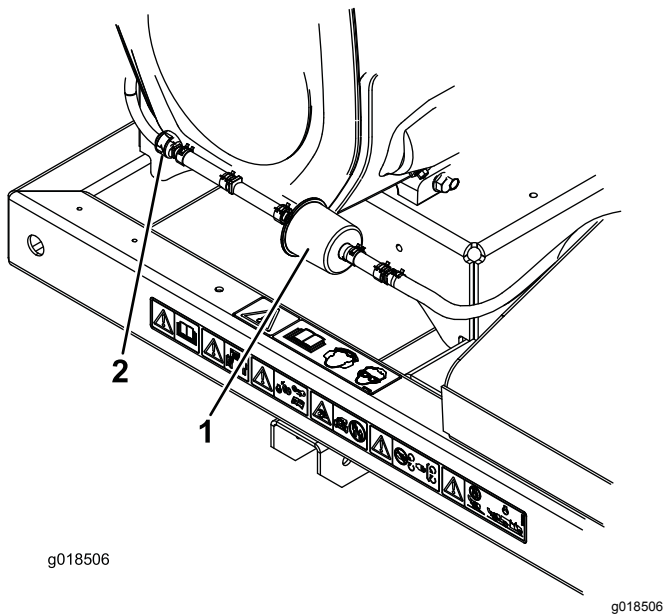

Figure 14
2. Move the spring-type hose clamps on both sides of the carbon canister purge-line filter away from the filter (Figure 14).
3. Remove and discard the carbon filter (Figure 14).
4. Install a new filter into the hose with the arrow on the filter pointing towards the check valve and secure it with the hose clamps (Figure 14).